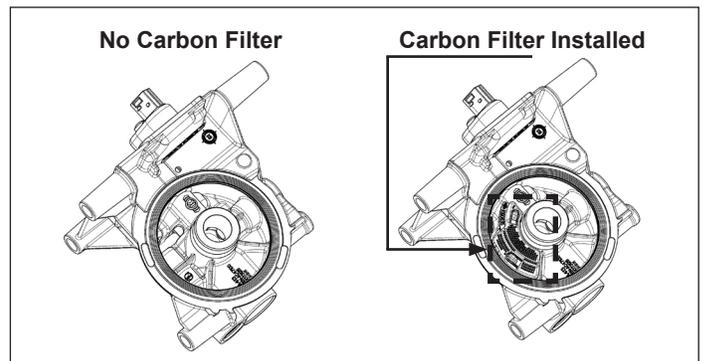

Figure 2 – Carbon Filter
4. Once accessible, remove the carbon filter from the air dryer body and discard. *See Figure 2.*